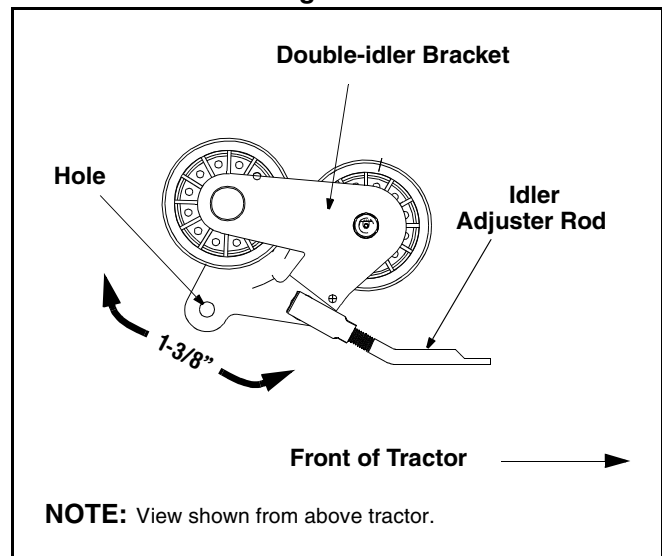

Figure 18
The drive pedal is properly adjusted when the hole found in the double-idler bracket has approximately 1-3/8" of travel with ten pounds of pressure applied to the drive pedal. See Figure 18.
- Locate the speed control assembly on the underside of the steering support bracket. See Figure 18.